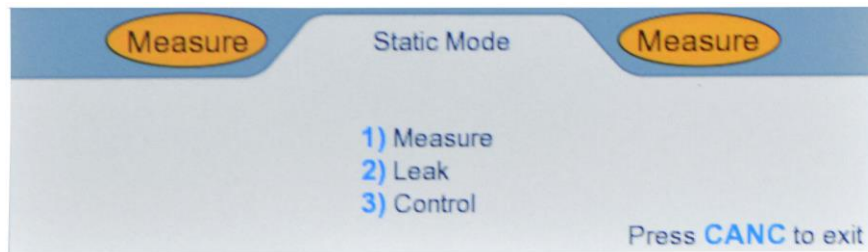

Figure 3.18 : Select Static Mode
The Static mode can be changed when the key# symbol (8) is displayed to the right of the Static mode field. Press key '8' on the keypad and the Lower section of the display will appear as shown in Figure 3.18 below.